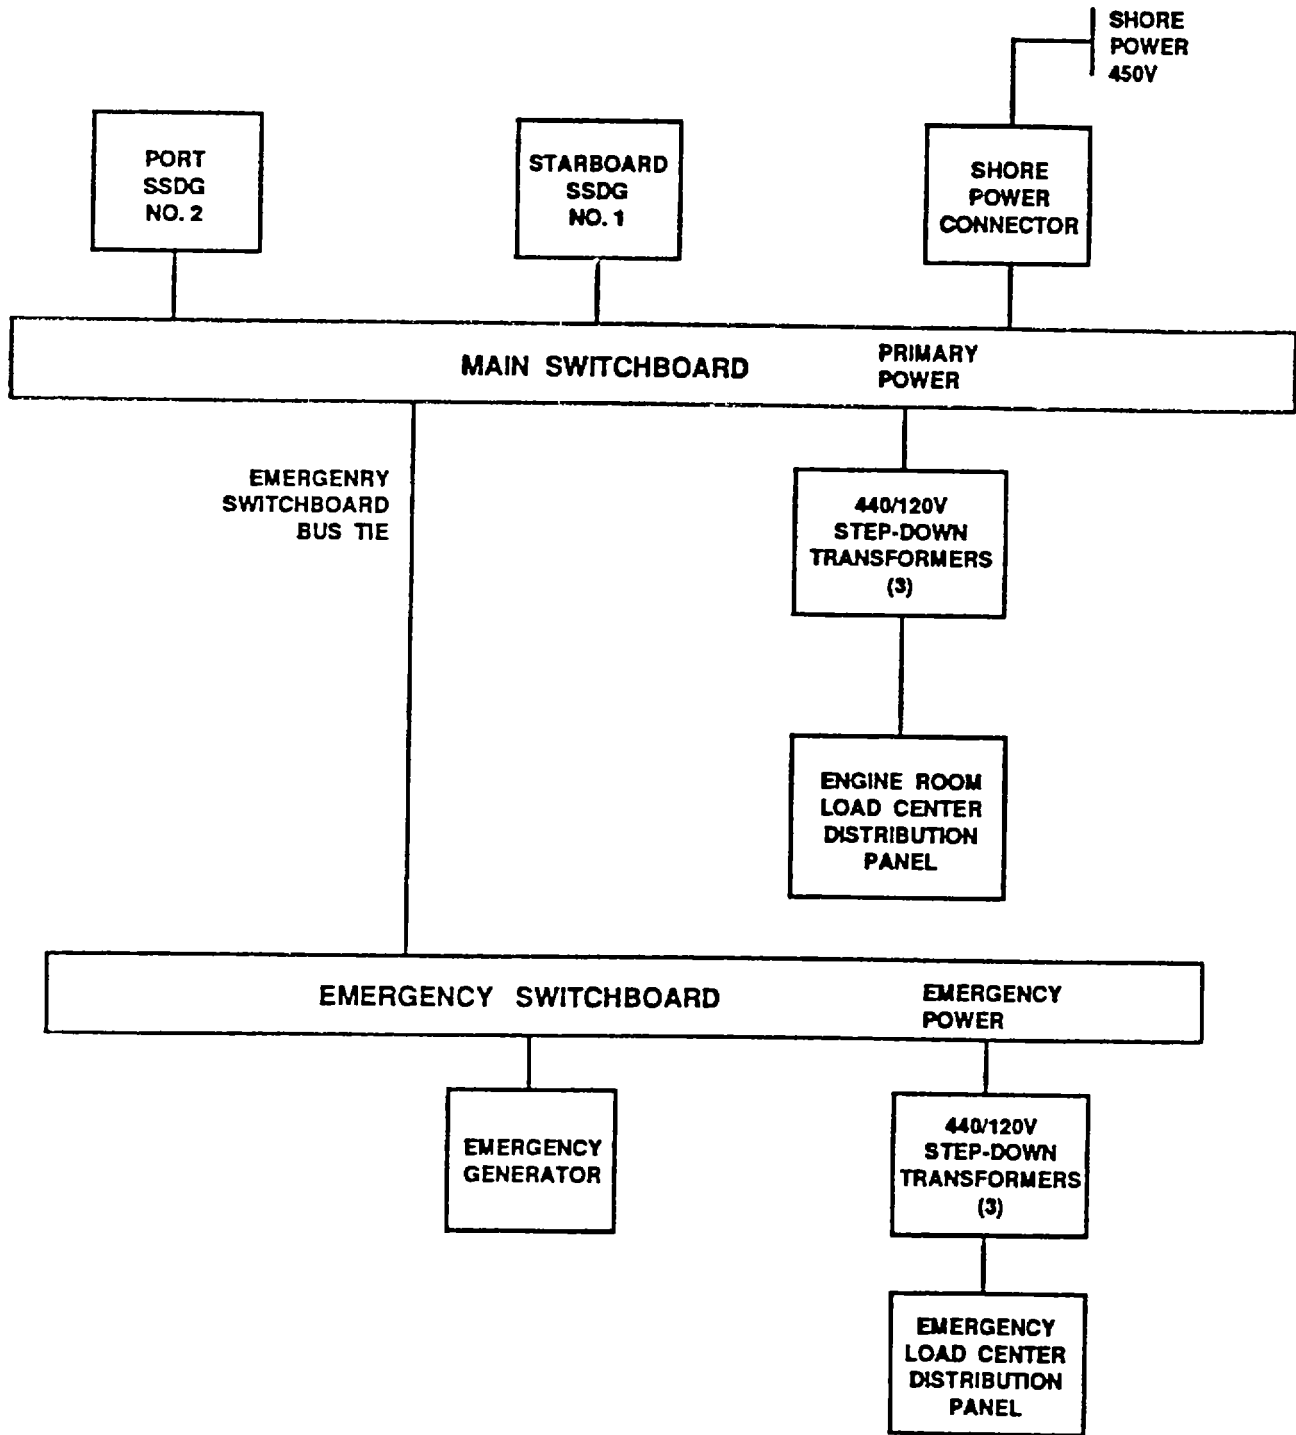

Figure 1-4. Power Generation System.
a. Power Generation System. The power generation system (Figure 1-4) provides the LT with service (450 Vac, 3-phase, 60 Hz, 275 kW) and emergency (450 Vac, 3-phase, 60 Hz, 65 kW) electrical power. Service power is generated by one or both of the ship service diesel generator (SSDG) sets, which supply the main switchboard and the emergency switchboard through a bus tie circuit breaker from the main switchboard. Emergency power is generated by an emergency diesel generator set, which supplies the emergency switchboard for continued operation of vital systems and equipment during loss of service power. A bus tie breaker transfer, located in the emergency switchboard, isolates the emergency switchboard from the main switchboard upon loss of service power and allows emergency power to be supplied through the emergency switchboard. In port, the LT is capable of receiving shore power (450 Vac), 400A through a shore power cable terminating at a shore power connector.